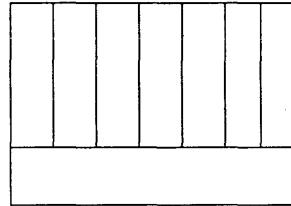

Fig.10
j) Color-bar gradations (Fig.10)